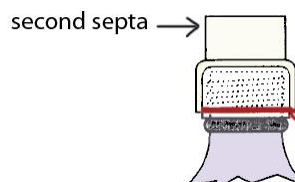

Fig. 1B For long-term storage, use a second septum
- For extra protection a second same-sized septa (without holes) can be placed over the first (figure 1b).